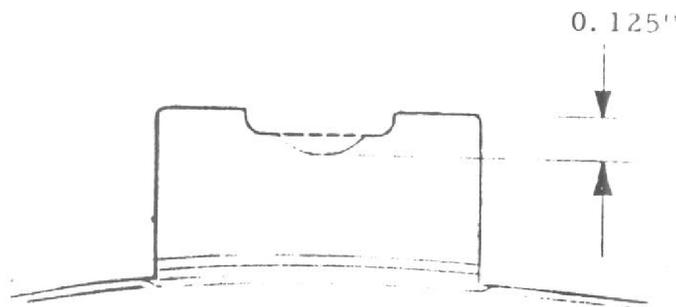

Fig. 2
(3) Where one or more tenons are indented, remove the brake friction plates and file all the tenons, using a 3/8 inch round file to the profile shown in Fig.2.
(4) Refit brake friction plates.
(5) Refit main wheel.